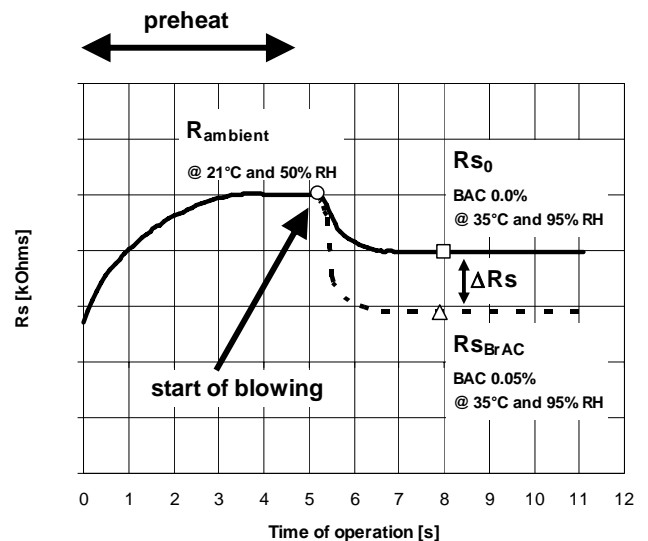

Figure 5: Sensor Output with Breath Exposure
2. Wait for at least 5 seconds to allow the sensor to reach a stable reading $R_{ambient}$. As shown in figure 5, there should be <10% R_s variation in the last second.
With a simulated breath exhaled at BrAC = 0.0 mg/l, the sensor resistance, R_s , will decrease, i.e. changing from R_{ambient} to R_{S_0} (see Figure 5). This is a result of the sensitivity of the sensor to the exhaled air which is at 35 °C and 95%RH.